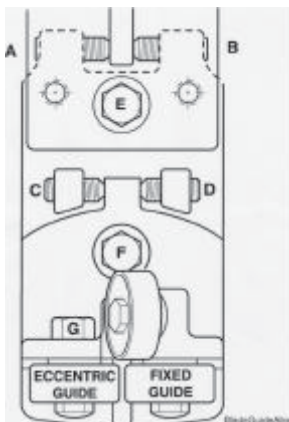

Figure 2
2. This adjustment is made with the top two socket headed screws on the roller adjusting block of the guide arm. Looking at the drawing (figure 2) you will see these adjusting screws labeled “A” and “B”.